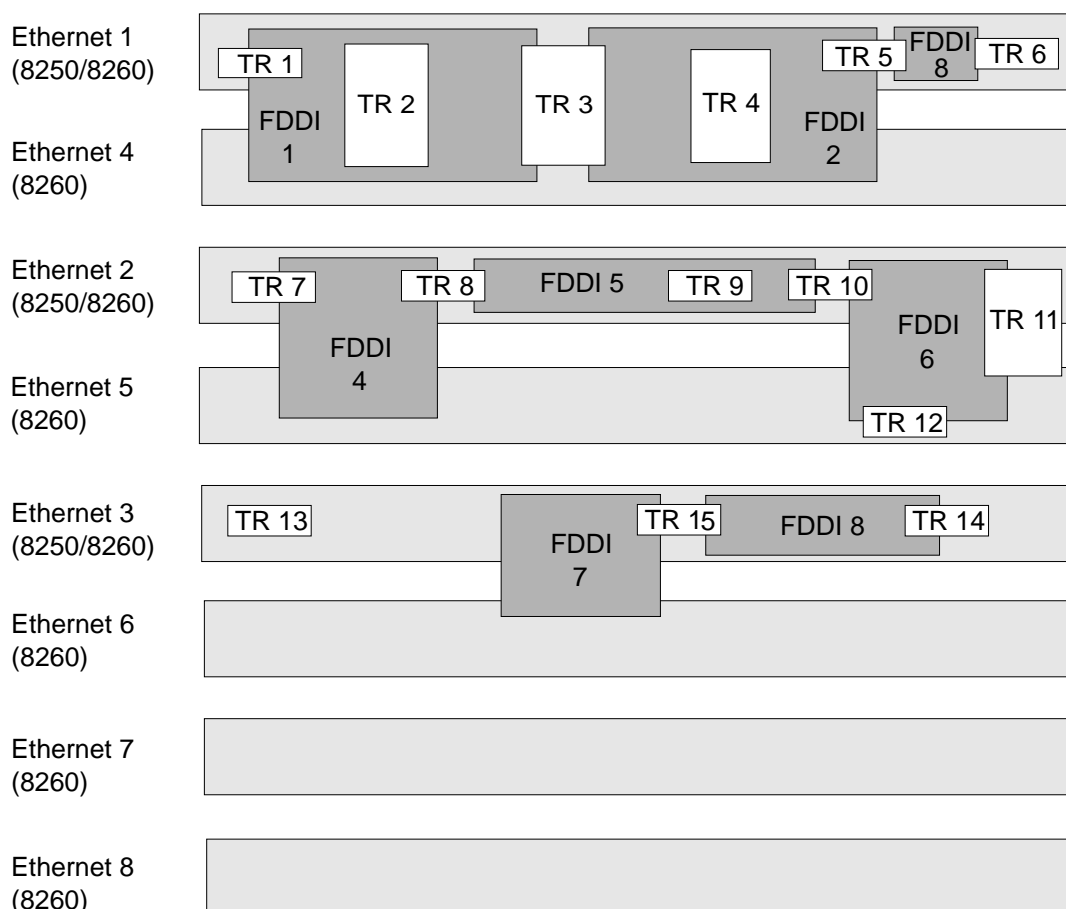

Figure 4. Backplane Path Usage
Figure 4 on page 8 shows how the three hub protocols share backplane resources. Refer to this figure when you need to plan the use of the backplane resources on your 8260 hub.
**Example 1:** If Ethernet 1 is in use, any networks that overlap Ethernet 1 and share the same backplane resources are not available. As shown in Figure 4, TR 1 to 6 and FDDI 1 to 3 are not available if you use Ethernet 1.
**Example 2:** If 8250 Token-Ring 15 is in use, any networks that overlap 8250 Token-Ring 15 and share the same backplane resources are not available. As shown in Figure 4, Ethernet 3 and FDDI 7 and 8 are not available if you use TR 15.